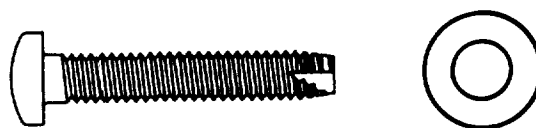

Fig. 39 - Mounting Screw and Washer
4. Put a washer on each of the *mounting screws*. (Figure 39)